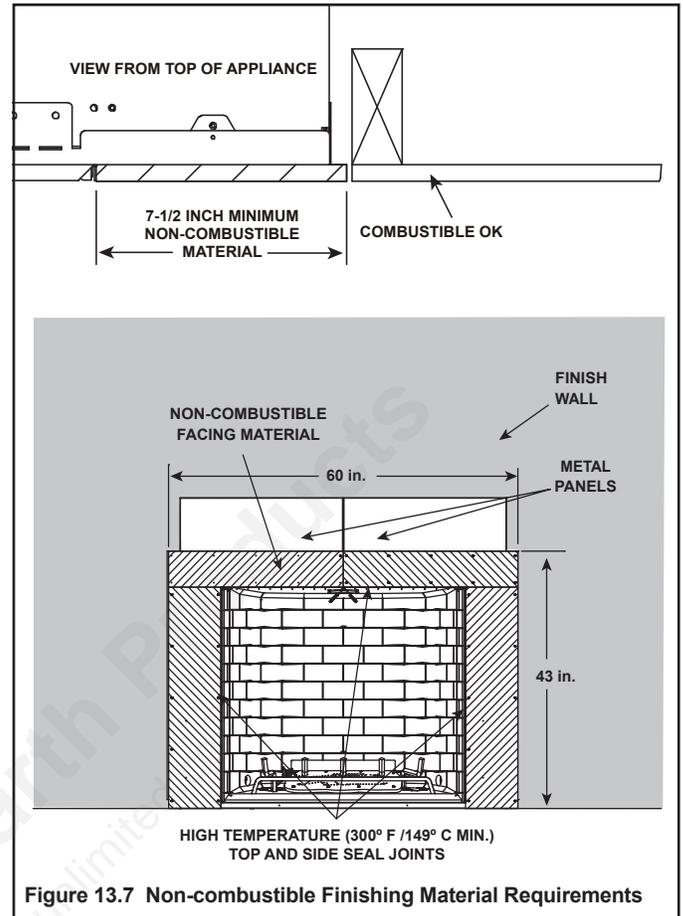

Figure 13.7 Non-combustible Finishing Material Requirements
- Seal joints between the finished wall and appliance top and sides using a 300 °F minimum sealant. Refer to Figure 13.7.